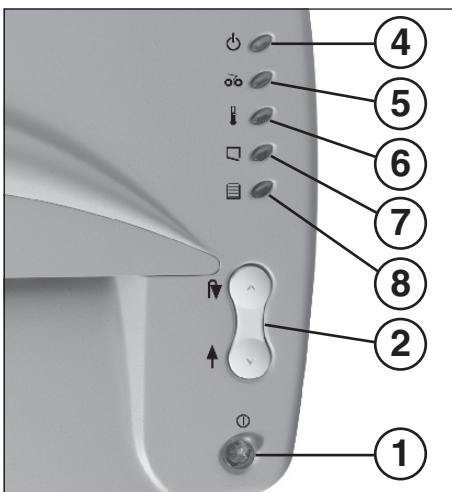

fig. 1
- 1 = Pushbutton switch „ready“ (fig. 1)**
- 2 = Rocker switch (fig. 1) (forward / reverse)**
- 4 = Pilot lamp „ready“ (fig. 1)**
- 5 = Pilot lamp "material jam" (fig. 1)**
- 6 = Pilot lamp "motor overload" (fig. 1)**
- 7 = Pilot lamp (fig. 1) „door open“**
- 8 = Pilot lamp „receptacle full“ (fig. 1)**
- Switch on the machine at the pushbutton switch (1) (fig. 1). The pilot lamp (4) (fig. 1) lights up.
Note: when shredding transparencies, the machine should be switched manually to the forward running position (rocker switch (1) (fig. 1) to position "↑").
When the receptacle is full, the machine switches off. The pilot lamp (8) (fig. 1) lights up.
- Open door. Pilot lamp lights up (7) (fig. 1).
- Place empty sack into receptacle and close door. The pilot lamp (7) (fig. 1) goes off.
Please make sure that the shredder is switched off over night (pushbutton switch (1) (fig. 1).